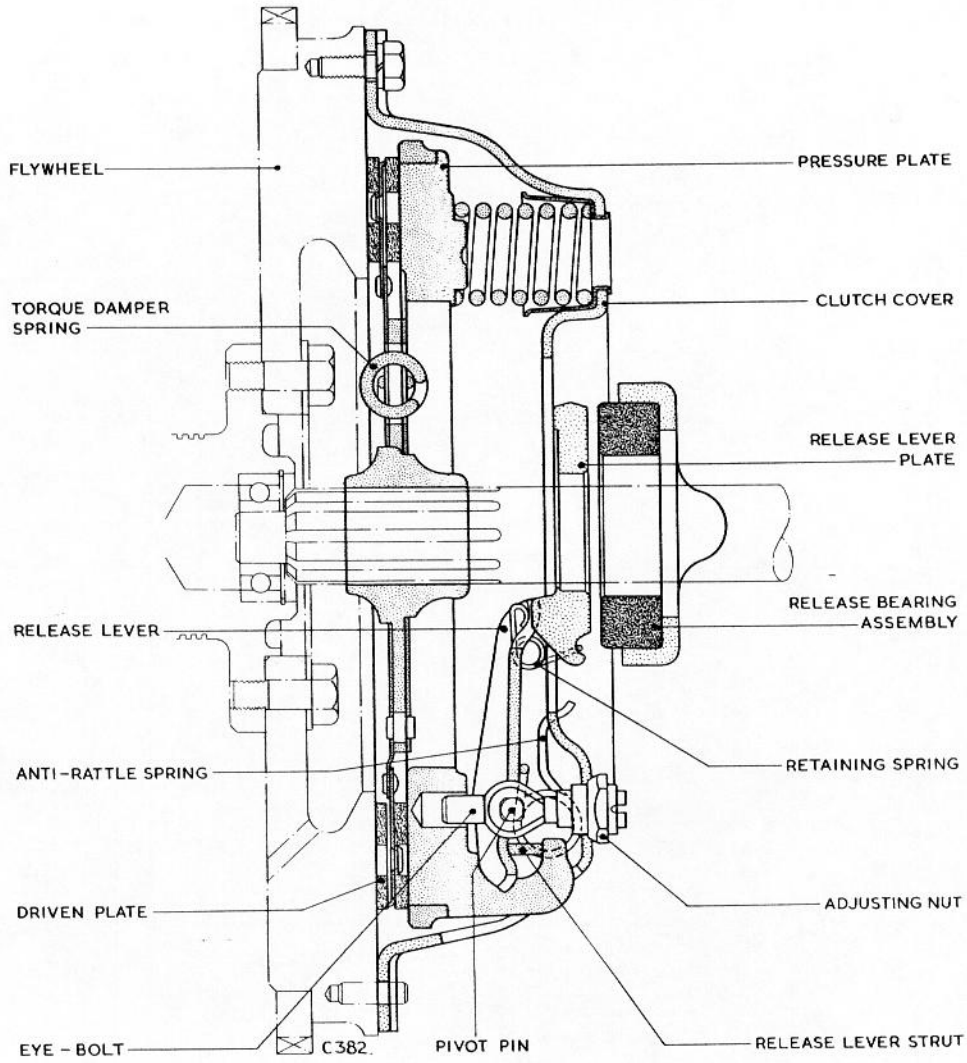
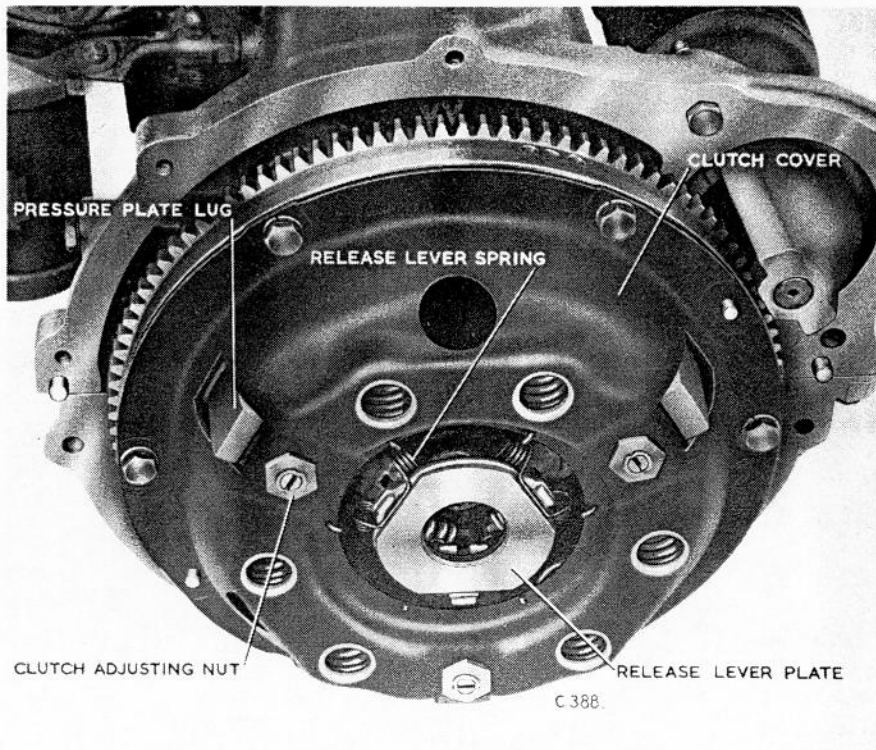

Fig.1 Section of clutch.
Fig.2 Clutch assembly on flywheel.
The three release levers each pivot about a pin inserted across the shank of an eye-bolt, the outer end of which is threaded and secured to the clutch cover by a cone-seated barrel adjusting nut. The inner end of the eye-bolt is a sliding fit in a guide drilled in the pressure plate, see Fig.1. Outboard of the pivot pin, a strut is fitted between the lever and the pressure plate lug, displacement of the strut being prevented by an extension on either side of its working surface. The forked inboard tips of the release levers bear on the release lever plate, where a small extrusion fits into the fork of each lever for accurate location. The release levers are kept in contact with and support the release lever plate by retaining springs, see Fig.2.
4. If the release lever plate on the clutch assembly is unfit for further service (as described above), unhook the release lever springs from the tongues on the release lever plate, see Fig.2, then remove and discard the plate.